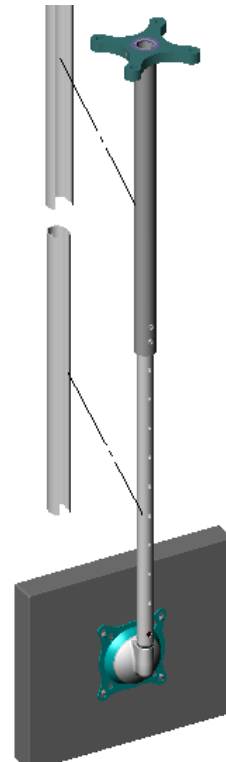

Figure 7. Install Cable Cover
2. Install top cable cover over cables (see Figure 7).